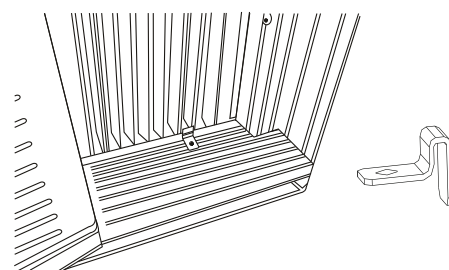

Fig.18C
3. Attach the Lock Frames to the window sill using two $3/4''$ (19mm) screws (Fig.18C) (on some models)